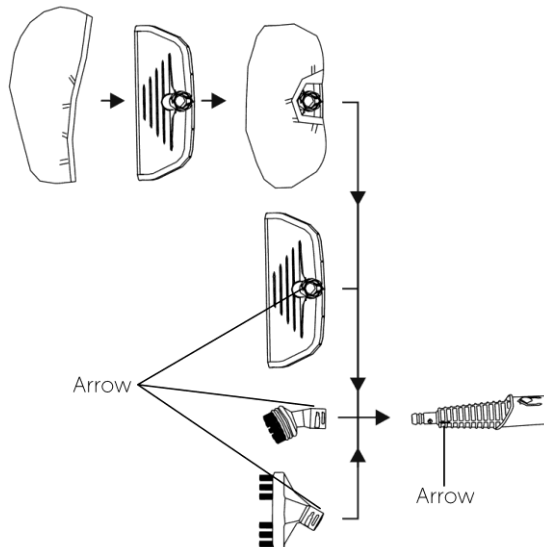

Fig. 5
5. To fit an accessory, align the arrow marked on the neck of the accessory with the lug of the utility nozzle, push together and then twist the accessory clockwise to lock together (fig. 5).